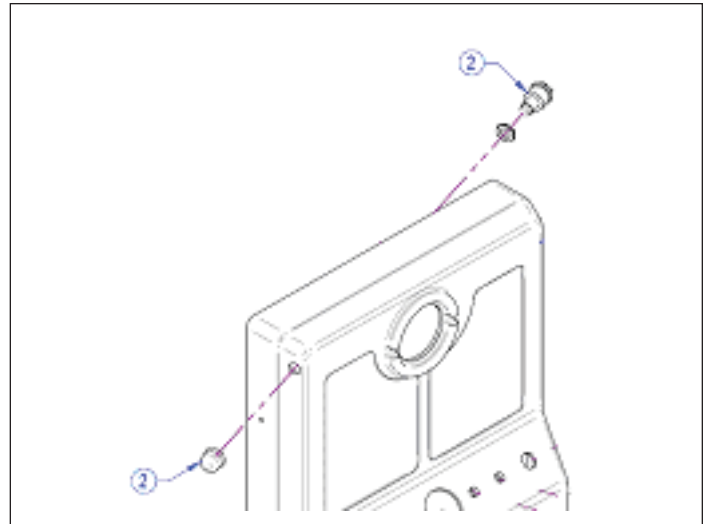

Figure 8-16. Horn Switch Mounting
3. Unscrew flat hex nut which holds the horn switch (2) to the console. Remove horn switch (2, Figure 8-16).